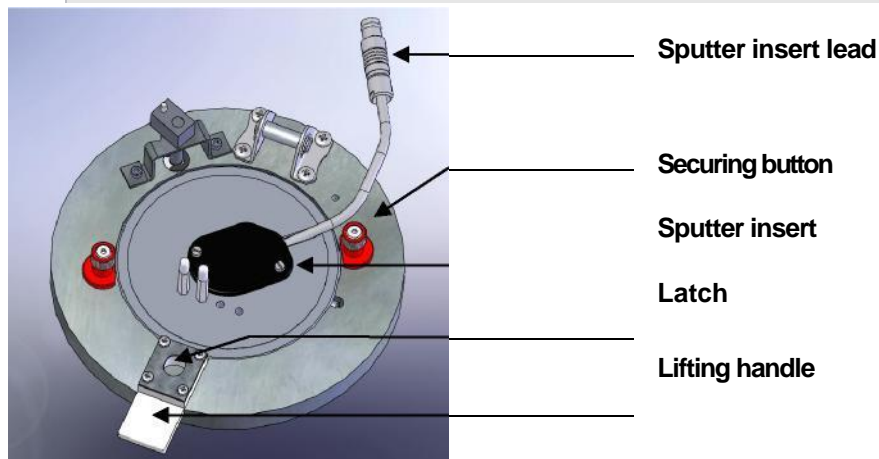

Figure 7-1. Top view of the sputter insert
4. Turn the two securing buttons to release the installed insert and remove the insert (see Figure 7-1).